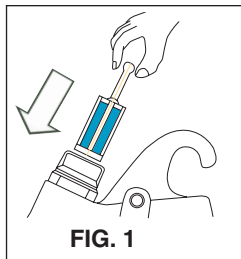

FIG. 1
- Using CUP HOLDER Female (PCG-6P-MD, Fig.1), insert the filter into the fluid nipple of the gun.